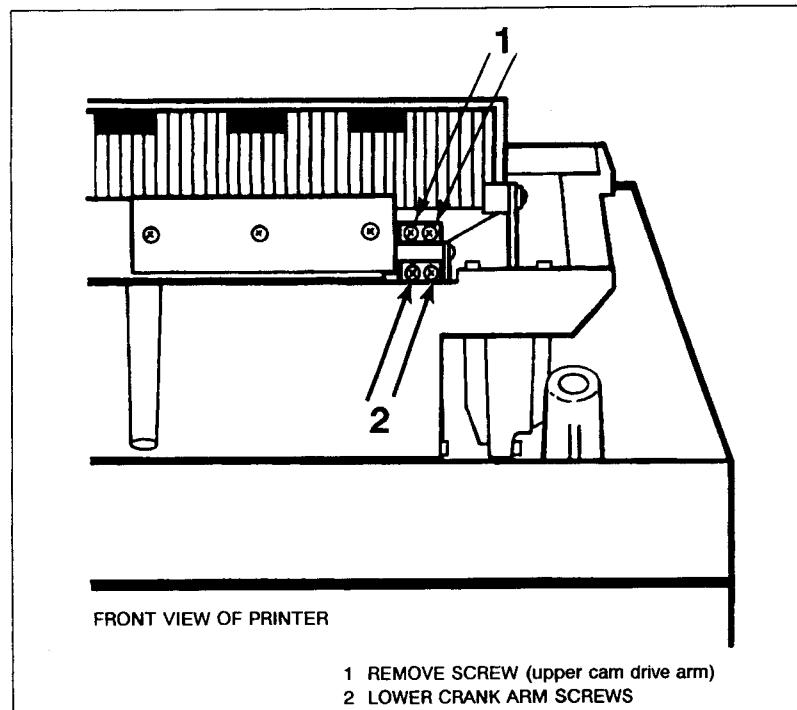

Figure 6-12. Print Mechanism (Front View)
f. Remove the two screws/3mm socketed or pozidrive screws from the upper cam drive arm of the print mechanism (see Figure 6-12).
- e. Remove the two screws and flat plate which secure the lower crank arm to the print mechanism (see Figure 6-12).